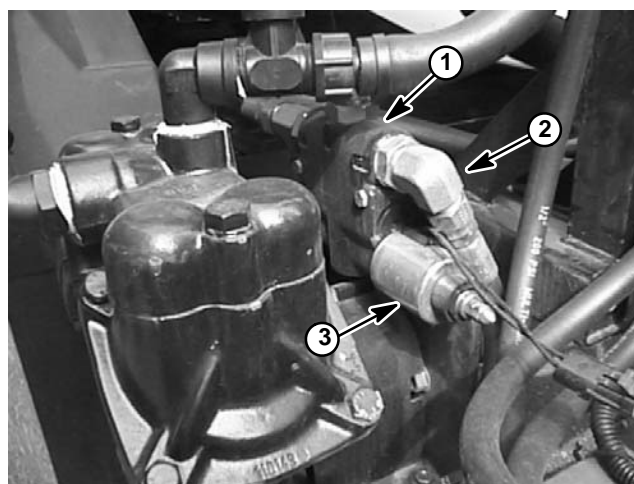

Figure 22
4. Disconnect hydraulic hose from the CF port fitting in the PWM Valve (Fig. 22).